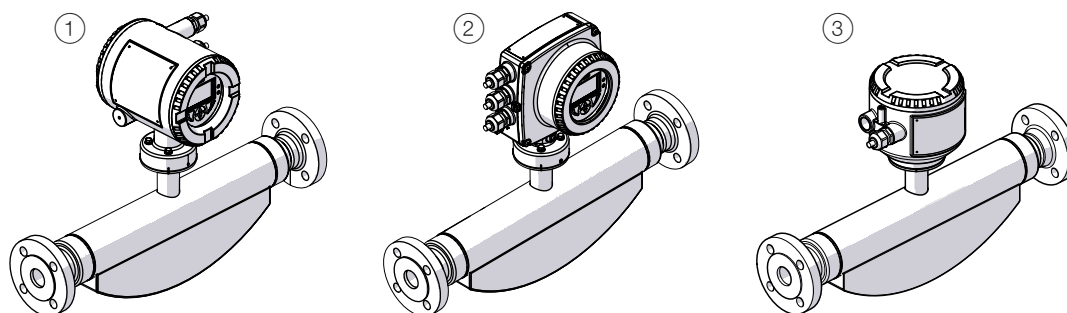

Fig. 2: Designs
Housing	Integral mount design (see Fig. 2, pos. ① and ②), remote mount design.